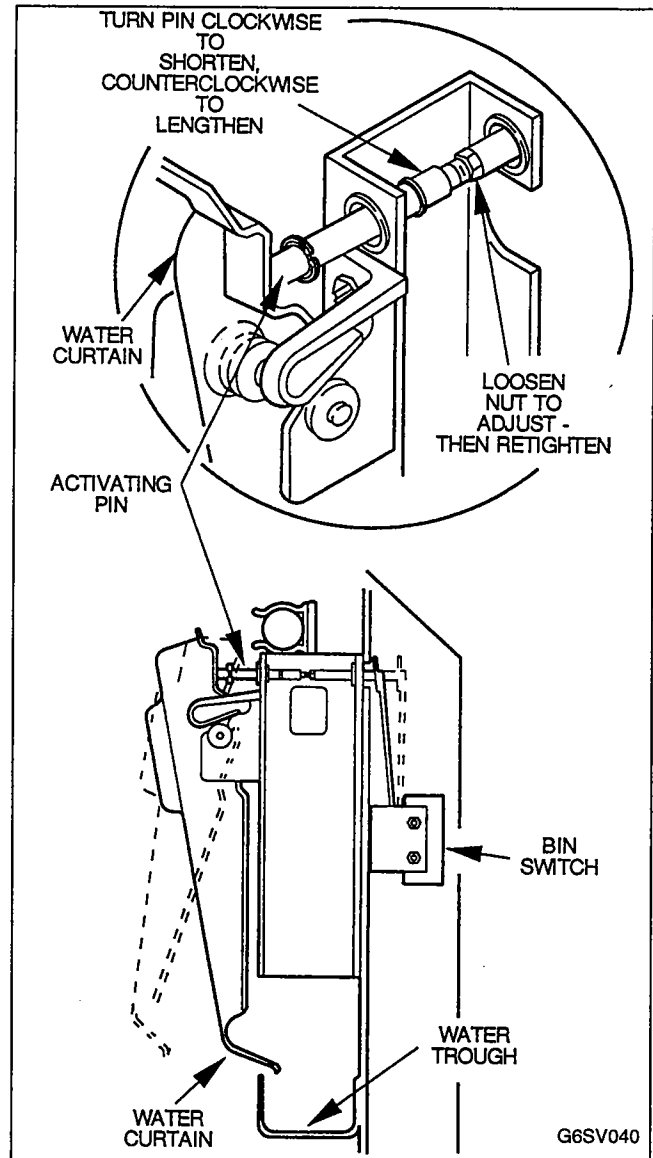

FIGURE 40. BIN SWITCH ACTIVATING PIN ADJUSTMENT
1. Pull water curtain away from evaporator until ice machine shuts off, Figure 40. (Remote machines, wait for ice machine to pump down.)
4. Bin switch pin adjustment (see Figure 40):